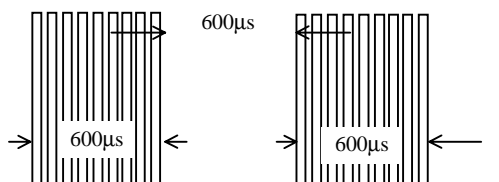

Fig 1. Burst Wave
- (1) Measuring place .....Indoor without extreme reflection of light.
- (2) Ambient light source... Detecting surface illumination shall be 200±50Lux under ordinary white fluorescence lamp of no high frequency lighting.
- (3) Standard transmitter ... Burst wave indicated in Fig 1. of standard transmitter shall be arranged to 50mVp-p under the measuring circuit specified in Fig 2.